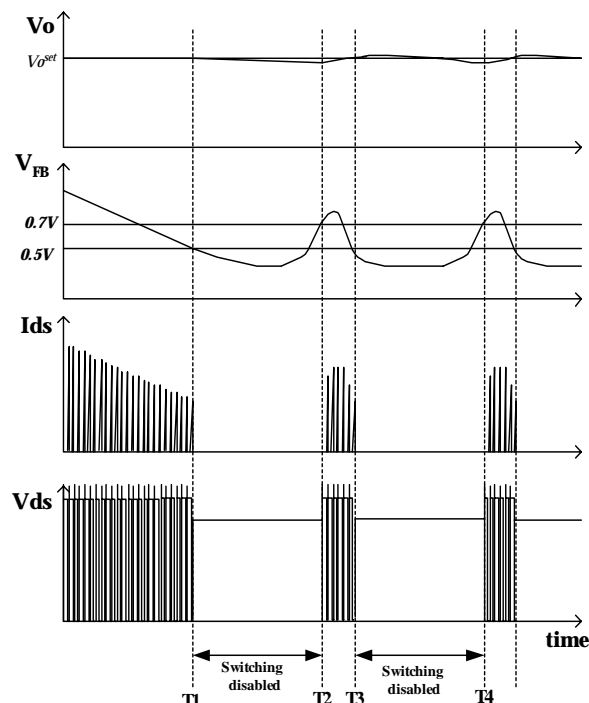

Figure 9. Waveforms of burst operation
**5. Burst operation :** In order to minimize power dissipation in standby mode, the FPSTM enters burst mode operation. As the load decreases, the feedback voltage decreases. As shown in figure 9, the device automatically enters burst mode when the feedback voltage drops below  $V_{BURL}$ (500mV). At this point switching stops and the output voltages start to drop at a rate dependent on standby current load. This causes the feedback voltage to rise. Once it passes  $V_{BURH}$ (700mV) switching resumes. The feedback voltage then falls and the process repeats. Burst mode operation alternately enables and disables switching of the power Sense FET thereby reducing switching loss in Standby mode.